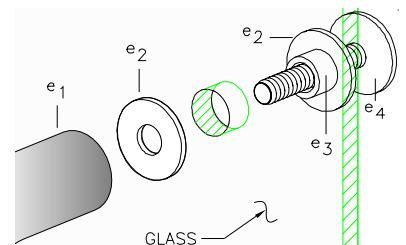

figure 8
11. Install the Towel Bars (E). Slip a Washer (e2) and Sleeve Bushing (e3) onto a Towel Bar Screw (e4) as shown in figure 8. Insert it into the glass hole as shown and attach one end of a Towel Bar (e1) to it. Attach other end of Towel Bar onto the Glass Panel. Repeat step for remaining Towel Bar.